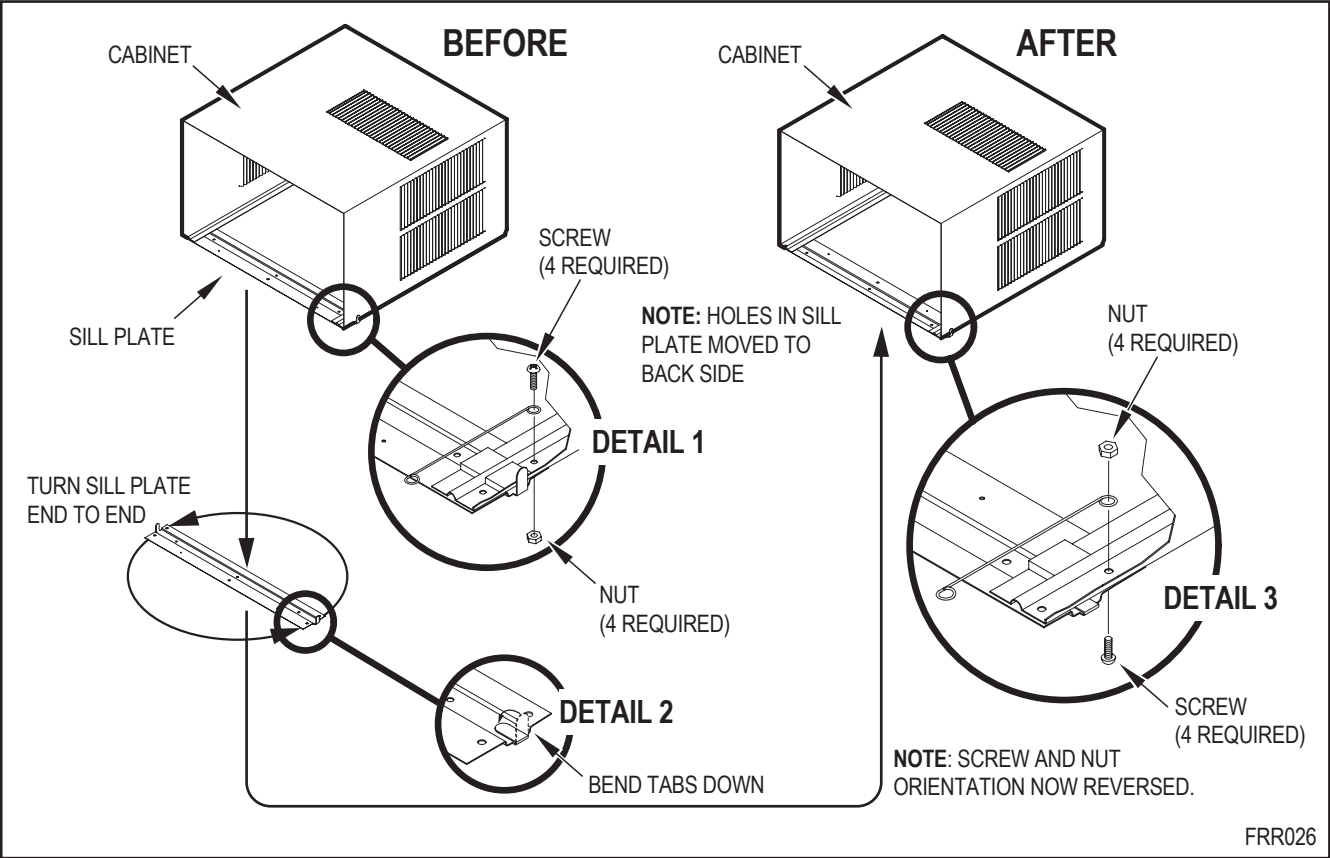

Figure C.5.4
STEP 3. CABINET PREPARATION – Remove the sill plate from the cabinet by removing two (2) nuts and screws (Figure C.5.4). Note that the chassis retainer is secured by a right side nut and screw (Figure C.5.4 Detail 1). Bend the tabs of the sill plate down into its channel at both ends of the plate or cut them off (Figure C.5.4 Detail 2). Rotate the sill plate 180° (end-to-end, Figure C.5.4 Detail 2) and reinstall. Reverse the orientation of the nuts and screws, so that the head of the screws are on the underside of cabinet facing up and the nuts are on top (Figure C.5.4 Detail 3). Ensure that the chassis retainer is reinstalled as shown in the detail.